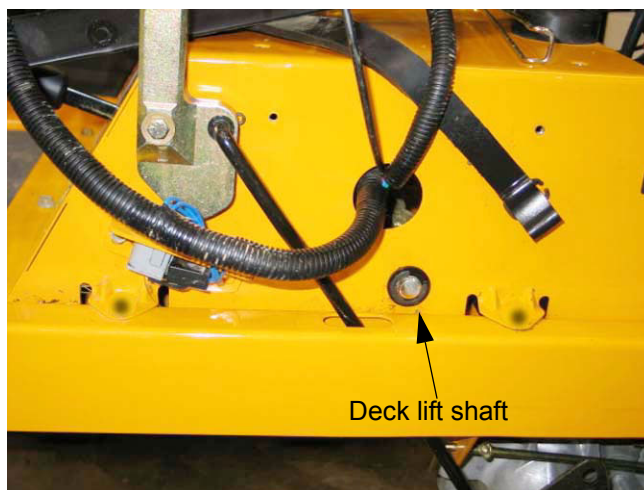

Figure 14.15
- 14.15. Remove the E-clips on the ends of the deck lift shaft. See Figure 14.15.